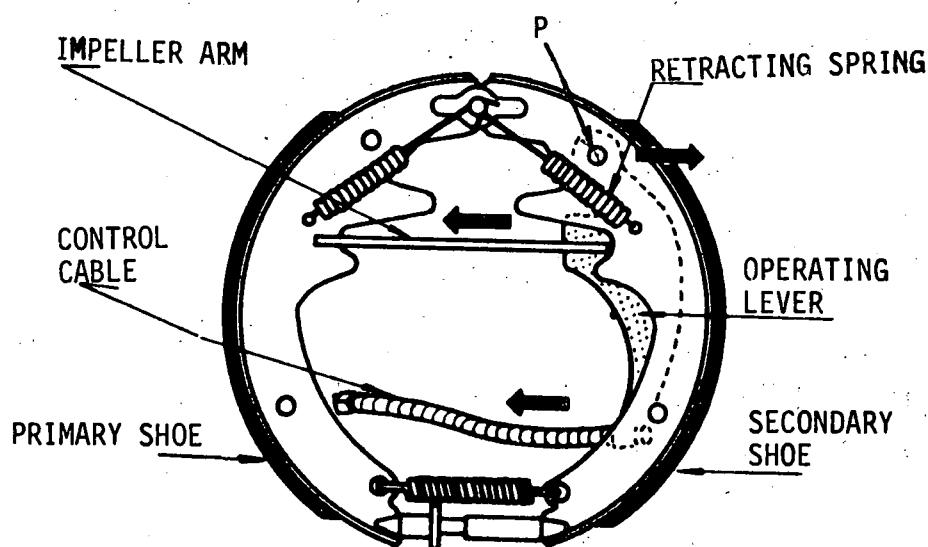

Fig. 2
On parking the vehicle, or on applying the brake in an emergency, the driver operates the control lever. This movement moves the intermediate cable and the compensating lever so producing tension in the control cables. The control cable operates the operating lever (fig. 2); this in turn moves the impeller arm pushing the primary shoe on to the drum; the reaction of this shoe moves it into the pivot of application (P) of the operating lever on the secondary shoe, causing it also to be pushed against the drum, thereby causing a progressive braking effect.